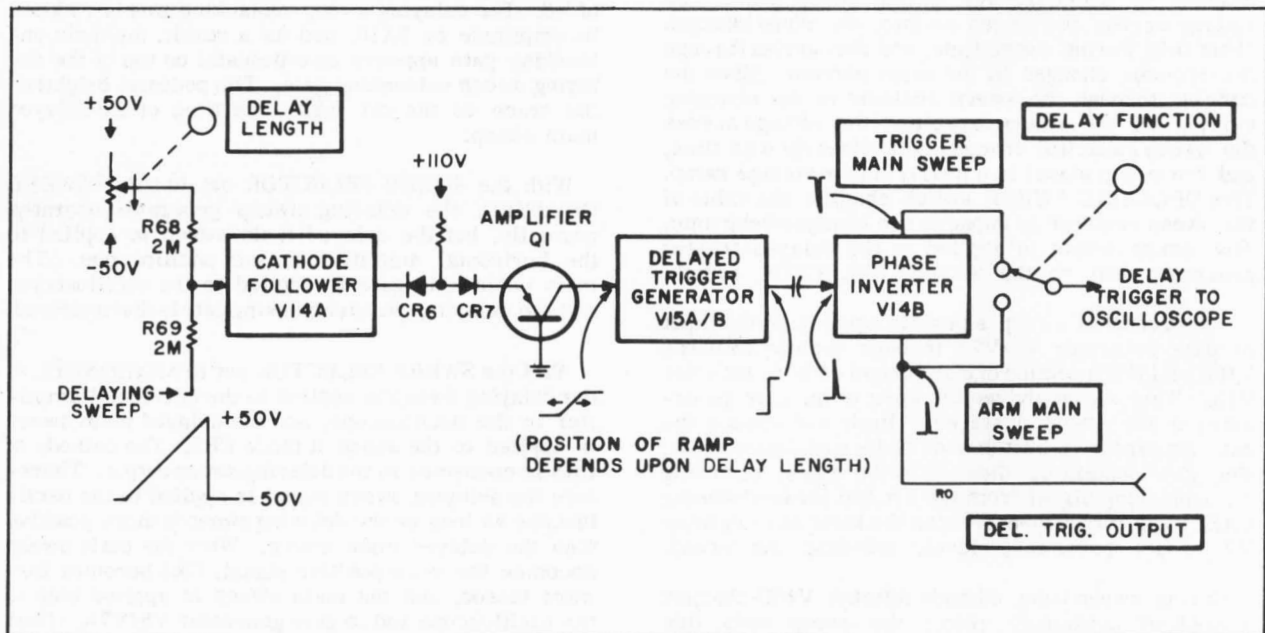

Figure 4-3. Delay Trigger Generator
a. DELAYED TRIGGER. - The delayed-trigger generator is shown in figure 4-3. The signal applied to cathode follower V14A is the algebraic sum of the delaying sweep signal and a dc voltage selected by the DELAY LENGTH control. The delay period is the time required for the delaying sweep to make the sum equal to about zero volts. As long as the sum is negative, the cathode of V14A is negative. Diode CR6 is therefore forward biased and holds the junction of CR6 and CR7 negative. Diode CR7 and transistor Q1 are then cut off. As the sweep progresses, the algebraic sum of the sweep and delay voltage approaches zero volts, the cathode of V14A goes positive, and the junction of CR6 and CR7 also goes positive. Diode CR7 then becomes forward biased, and current flows into the emitter of Q1. As the delaying sweep continues, CR6 becomes reverse biased and disconnects CR7 from the output of cathode follower V14A.